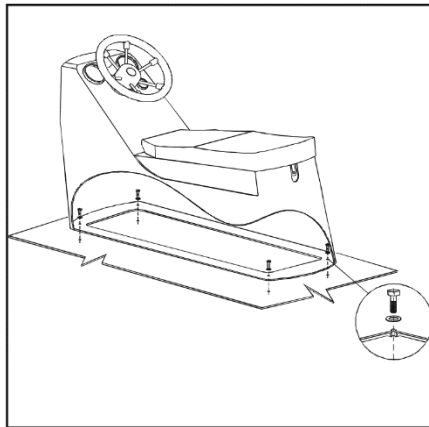

Fig. 8. Installation of steering console CS-01W/CS-03.
- Fix steering console to the deck by means of bolts M8\*25 and toothed lock washer (see Fig.8).